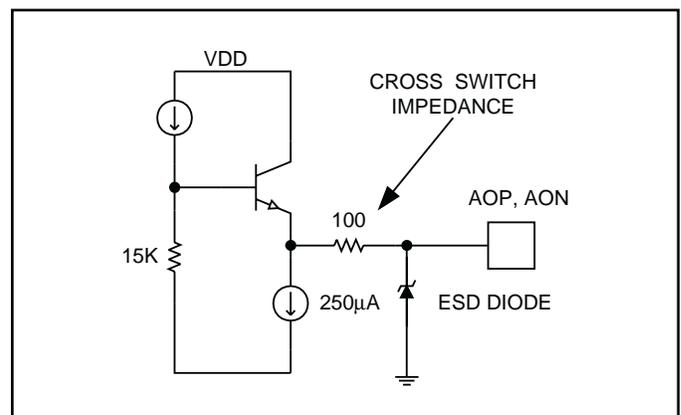

Figure 1. AOP and AON output stage.
**AOP:** Positive output of the converted current signal. Voltage from AOP to AON is the absolute value of the transimpedance amplifier output. AOP may show some “chopping” noise. The differential to single-ended conversion removes the common-mode noise between AOP and AON. Some high frequency filtering of AOP to GND can reduce the fast transient spikes. The output stage of AOP is shown in Figure 1.
**AON:** Negative output of the converted current signal. Voltage from AOP to AON is the absolute value of the transimpedance amplifier output. AON may show some “chopping” noise. The differential to single-ended conversion removes the common-mode noise between AOP and AON. Some high frequency filtering of AON to GND can reduce the fast transient spikes. Note that AON is above GND voltage. The output stage of AON is shown in Figure 1.